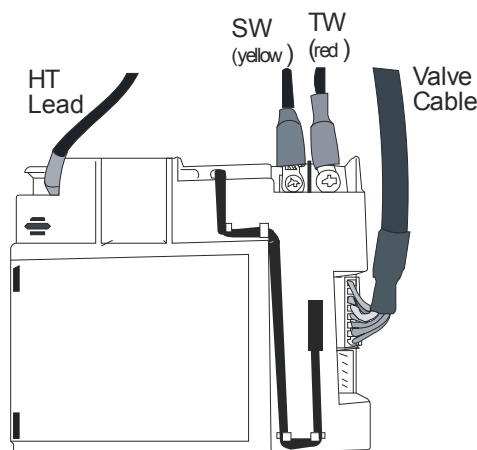

Figure 70
2. Gently pull out the HT lead and the valve cable from the receiver (see **Figure 70**).